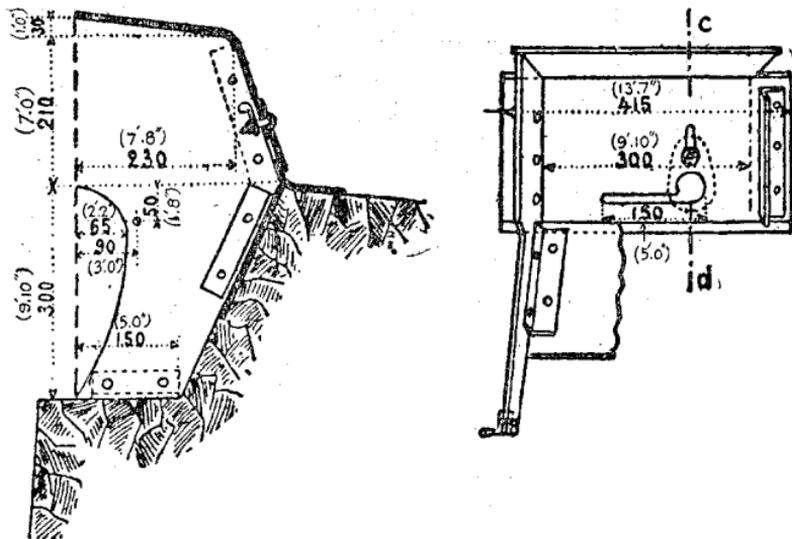

FIG. 154.—Shelter for lookouts, type S. T. G.
8. **Shelter for lookouts, type S. T. G.** (fig. 154).—Three models weighing 25, 32, and 40 kilograms (55, 70+ and 88 pounds). Protection the same as for parapet shields.